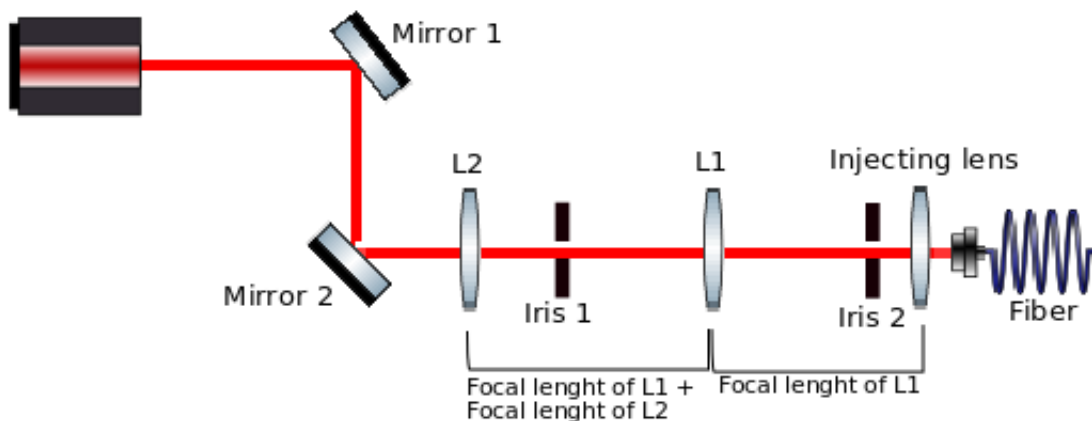

Figure 3 : Setup with L2.
10. Add the L2 in the optical axis. This lens should be at the same distance than the sum of the focal length of L1 and L2 from L1. (Figure 3)